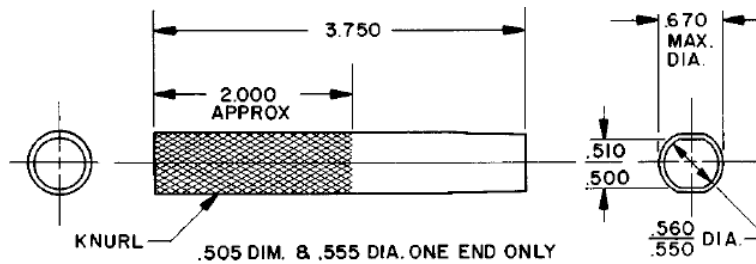

Figure 2. Woodward Tool 360692
6. Hold pilot valve plunger down against snap ring (67) and use Woodward tool 360692 or equivalent (see Figure 2) to thread spring collar (27) off of plunger stem. Remove overriding piston (26).
7. Remove hex head cap screws (25) and lock washers (24) and slip overriding cylinder (19) off of pilot valve stem. Press cylinder head (61) out of cylinder (if necessary).
1. Install snap ring (67) in load control bushing (66).
2. Put load control bushing into the column bore; install load control pilot valve plunger (64), spring (65), gasket (63), and oil seal (62). (In some governor models, a spacer is used in place of the oil seal.)
3. Press the cylinder head (61) into the cylinder (pc. 19) (if not already installed).
4. Place O-ring (71) in the counterbore in the column; slip cylinder (19) over pilot valve stem and tighten down with hex head screws (25) and washers (24).
5. Install overriding piston (26).
6. Hold pilot valve plunger down against snap ring (67) and use Woodward tool 360692 or equivalent (see Figure 2) to thread spring seat (27) onto plunger stem. Turn spring seat down until it touches overriding piston; then back off 1/4 turn. (Plunger will begin to rise if spring seat is turned down further on thread after touching piston.)